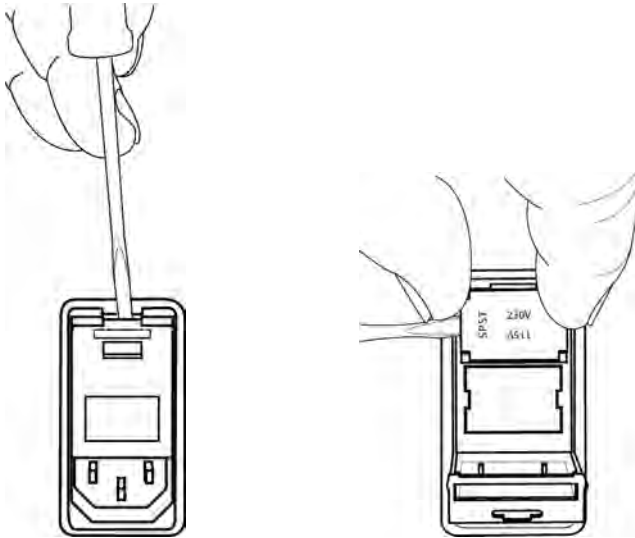

Figure 4.7
To replace mains electrical fuses, refer to Figure 4.7 through Figure 4.10 and do the following:
2. Using a small flat blade screwdriver, pry open the cover of the power entry module, see Figure 4.7.
6. Carefully replace the red fuse holder into the power entry module. Check to ensure that the correct line voltage is uppermost as you re-insert the fuse holder into the power entry module (see Figure 4.7 through Figure 4.10).